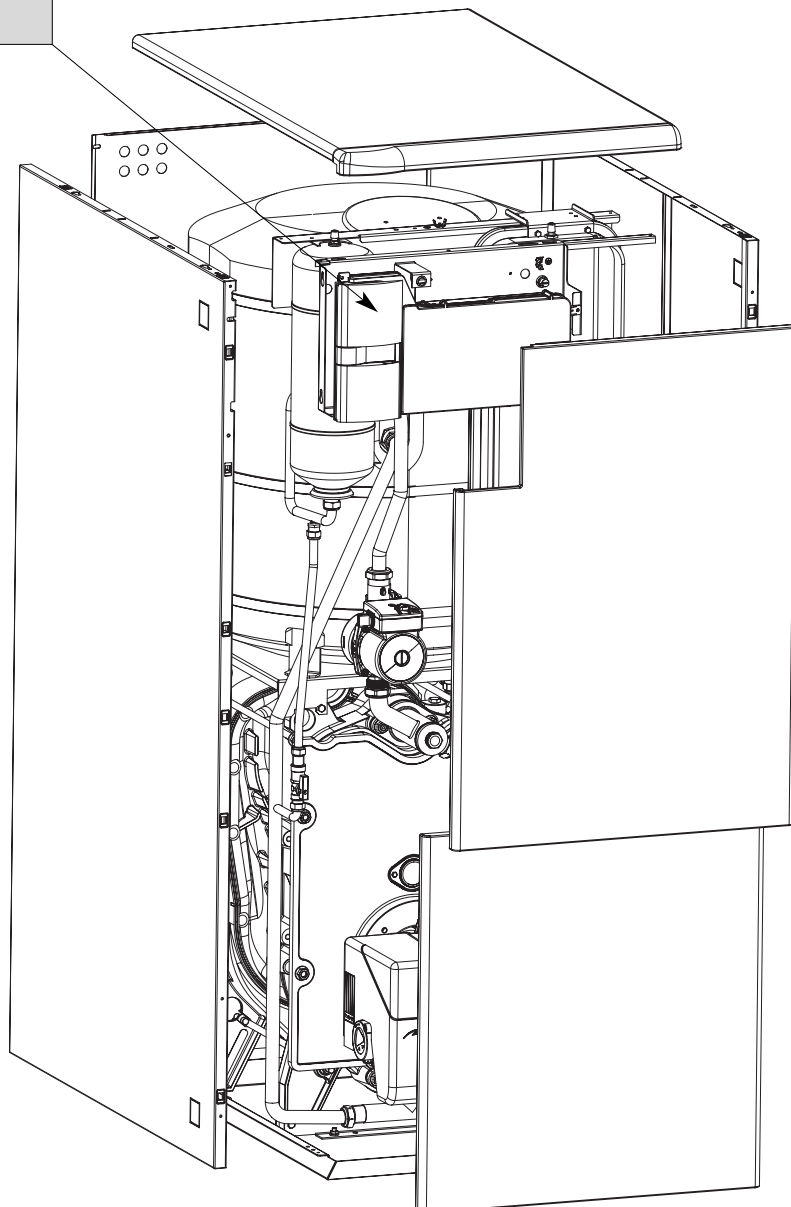

Fig. 16
4.2 DISASSEMBLY OF OUTER CASING (fig. 16)
The shell can be completely disassembled for an easy maintenance of the boiler as shown in fig. 16.